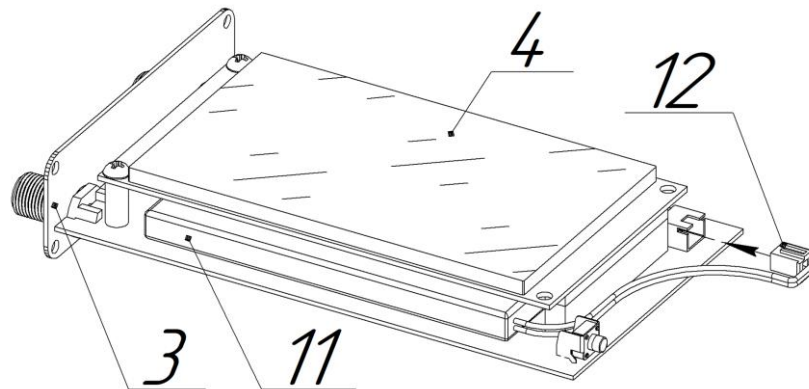

Figure 11.2 - Replacing the battery
11.3.6. The battery (11) is located on the board under the screen module (4) and secured with double-sided tape. Carefully disconnect the battery connector (12) (11) from the PCB connector (figure 11.2). Remove the old battery (11) and remove the old double-sided tape that was used to attach it to the board.